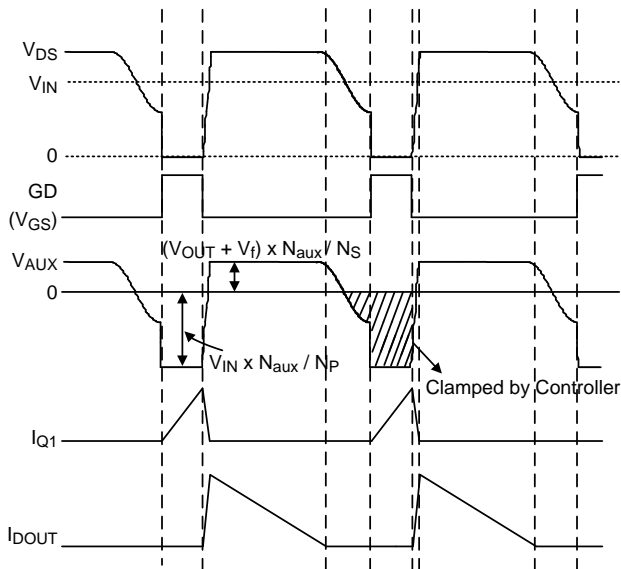

Figure 3. Key Waveforms of a Flyback Converter
RT7306 needs no shunt regulator and opto-coupler at the secondary side to achieve the output current regulation. Figure 3 shows several key waveforms of a conventional flyback converter in Quasi-Resonant (QR) mode, in which V_{AUX} is the voltage on the auxiliary winding of the transformer.